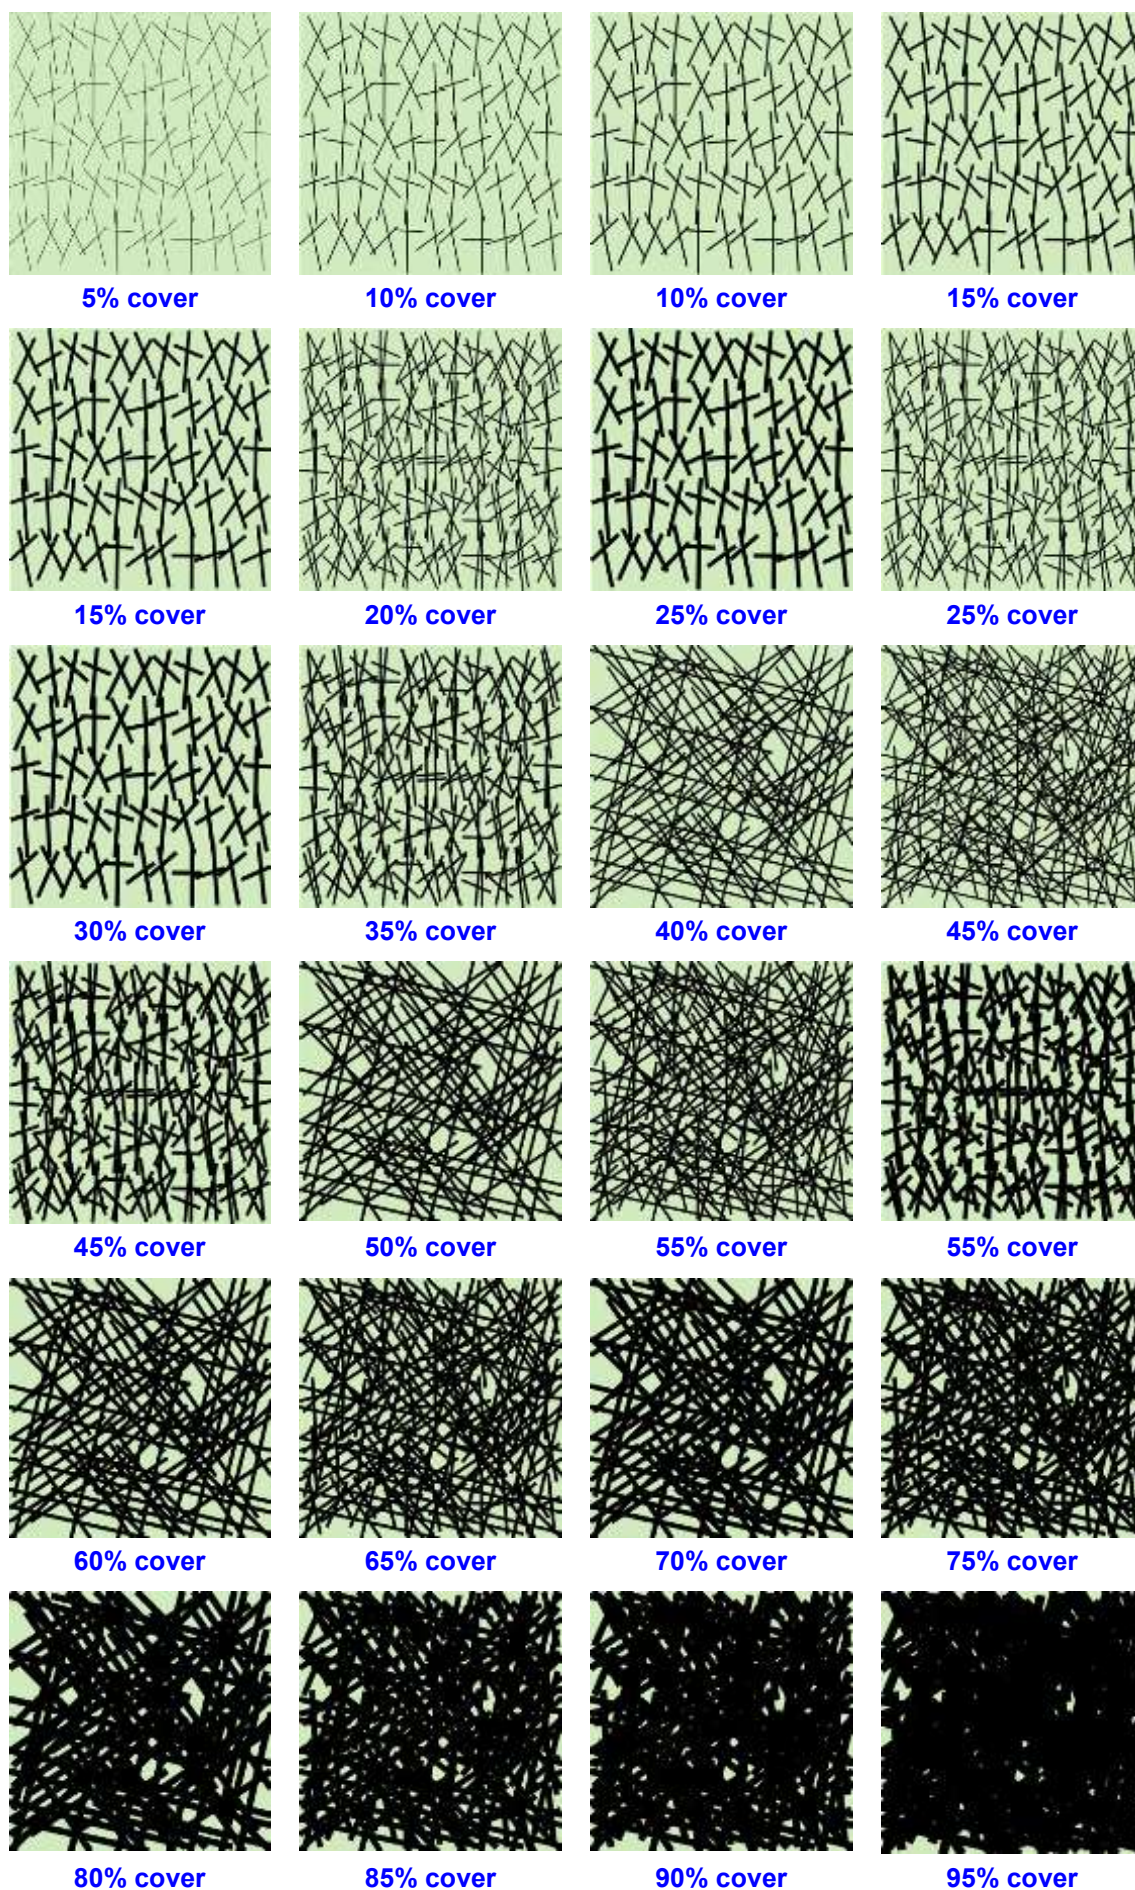

Figure 1 – Visual straw/grass cover estimation guide
- To be effective, at least 70 to 80% cover (refer to Figure 1 over page) must be achieved in order to protect the soil surface from raindrop impact.